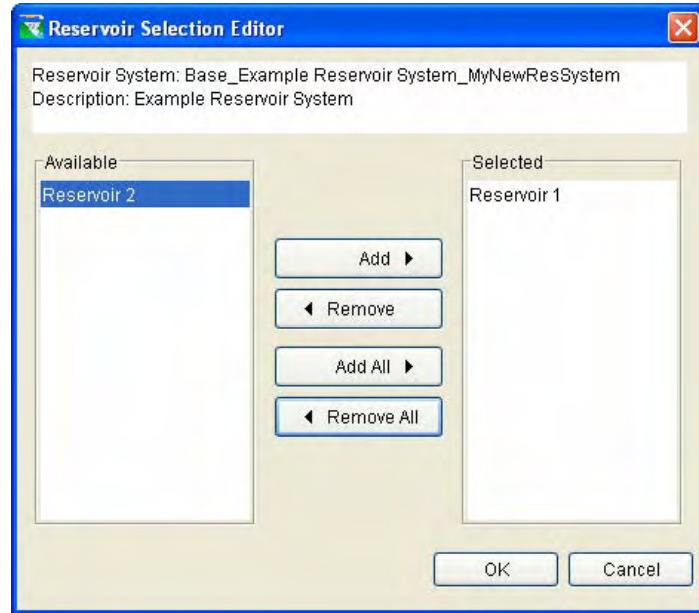

Figure 12.16 Reservoir Selection Editor
1. Choose **Edit Reservoir Set** from the **Edit** menu of the Reservoir System Editor. The **Reservoir Selection Editor** will open (Figure 12.16).